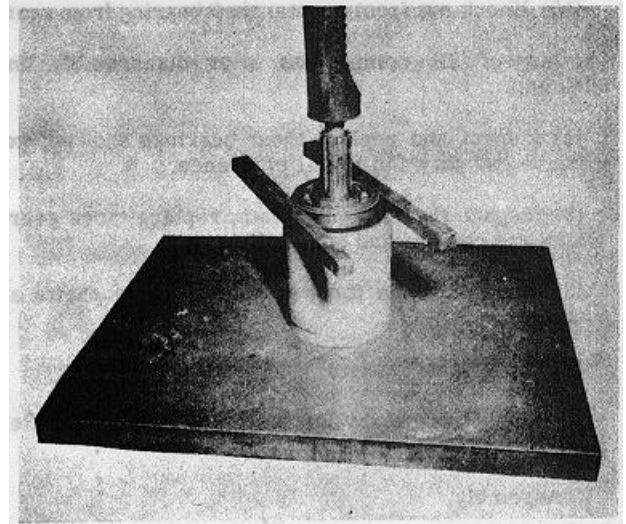

FIGURE 10. Removing Rear Main Shaft Bearing
(17) Press rear main shaft bearing off of shaft. This bearing need not be removed, unless replacement is desired. (See Figure 10.)